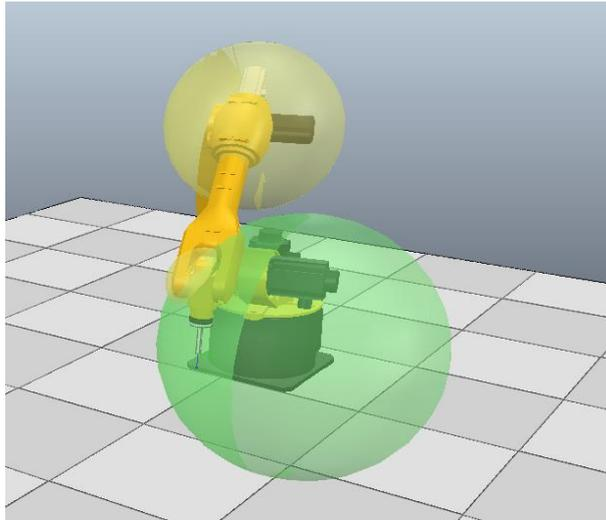

Figure 6-74 Robot' s J5 "Axis Envelope" outside working zone
Step4. The robot is controlled to move outside the working zone (see Figure 6-74). When the J5 "Axis Envelope" boundary is detected to be out of the working zone, the warning message shown in Figure 6-76 will appear.